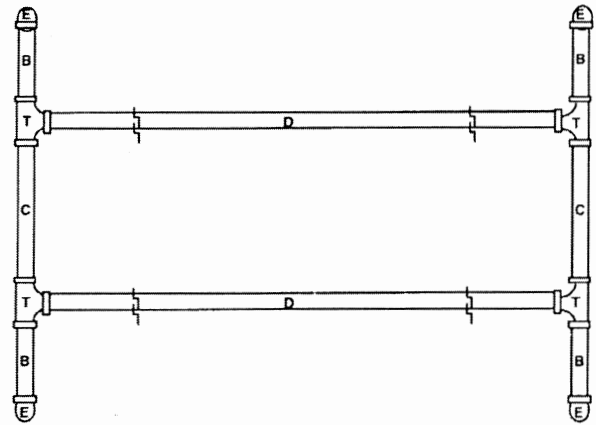

Figure 3. Lighted Garden's Diagrammatic Top View.
Position one of the end units flat on the floor with the open ends of the tees that will receive the laterals facing up. Insert the lateral pipes (D) into the tees (Figure 3). After verifying the fit of the six laterals, mark the fit of each with a pencil to indicate the depth at which it penetrates its associated tee, and then remove the laterals. Cement laterals, one at a time, into their associated tees to the depth marked.